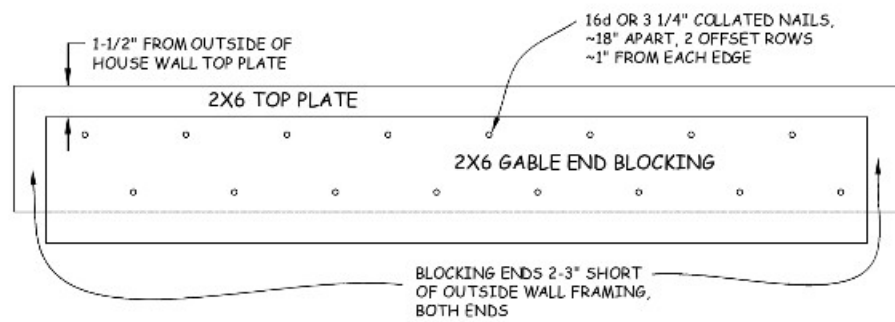

Figure 5-8. Gable End Blocking.
1. Install 2x6 blocking along the top of both gable end walls keeping each end 2"-3" short of the outside top wall plate. Hold the 2x6 back 1½" from the exterior of the top plate. Nail the entire length with 16d (or 3¼" collated) nails staggered every 12". The 2x6 overhangs the plate on the interior side of the wall and serves as ceiling sheetrock blocking. See Figure 5-8.